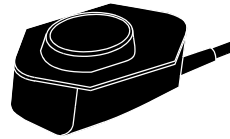

Figure 5-10 Pediatric Paddle (Bottom)
- The pediatric paddle is now exposed and ready for use (refer to Figure 5-10).